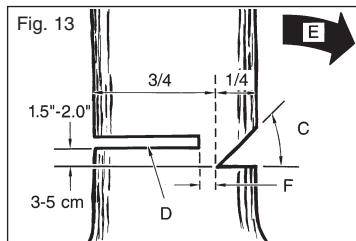

Fig. 13
WARNING: Never walk in front of a tree that has been notched. Make the felling cut (D) from the other side of the tree and 1.5 - 2.0 inches (3-5 cm) above the edge of the notch (C) (Fig. 13)